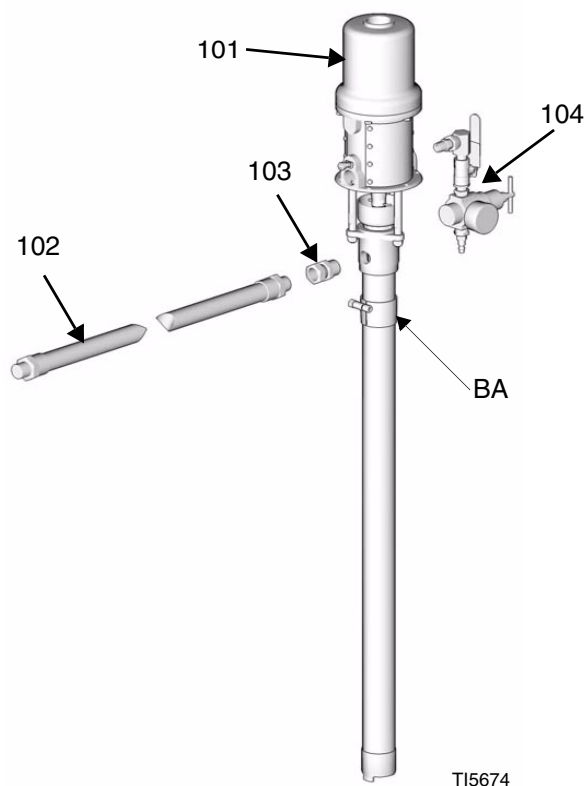

FIG. 2: Feed Pump
- a. See FIG. 2. Install feed pump (101) in drum and secure with bung adapter (BA).
- b. Install air control kit (104).
- c. Screw swivel union (103) into pump fluid outlet. Connect hose (102) to swivel. Connect other end of hose to proportioner.